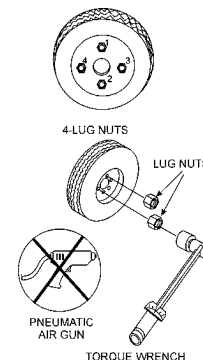

Figure 25. Lug Nut Torque Sequence
- Torque all lug nuts in sequence. See Figure 25. DO NOT torque the wheel lug nuts all the way down. Tighten each lug nut in 3 separate passes as defined by Table 5.
- After first road use, retorque all lug nuts in sequence (Figure 25). Check all wheel lug nuts periodically.